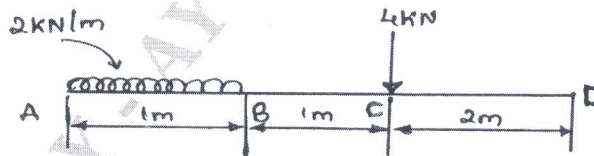

Fig.Q3(a)
- 3 a. A beam ABCD, 4m long is overhanging by 1m and carrier load as shown in Fig.Q3(a). Draw the shear force and bending moment diagram for the beam and locate the point of centre of flexure.